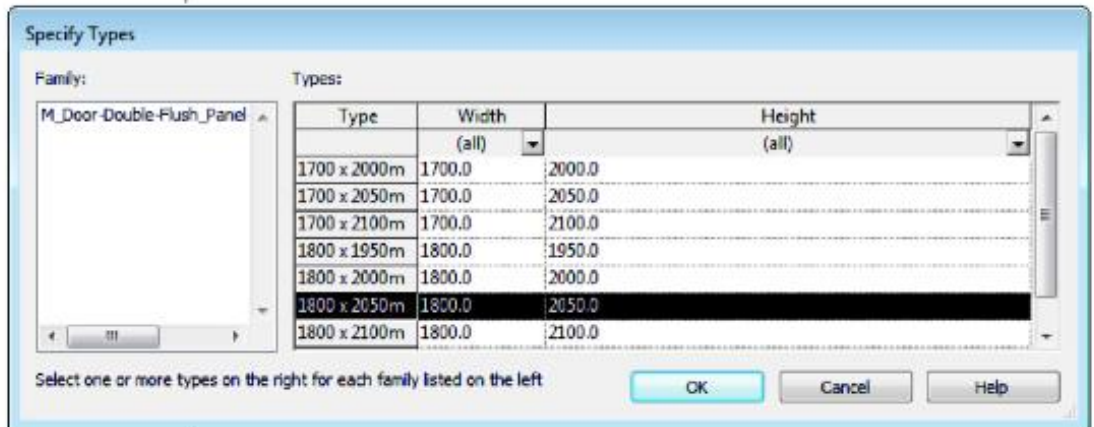

Figure 5–26
6. In the Specify Types dialog box, select the *Type* **1800 x 2050mm** (as shown in Figure 5–26) and click **OK**.